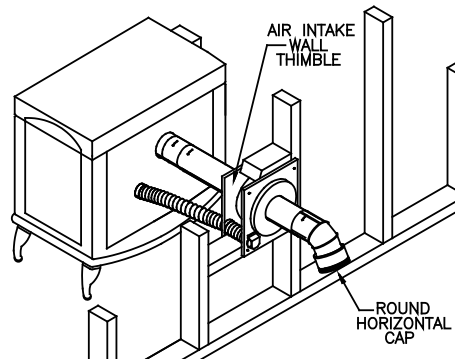

Figure 13
of the stove with clamp provided. Only connect metal flex to the appliance; do not substitute or install plastic flex. The cover plate comes installed on the lower left corner of the thimble with intake guard pointing downward to deflect rain. If it is desired to rotate thimble and air inlet to another corner, remove the (2) screws on the inlet guard and re-attach over air inlet at new location. Secure black interior half of the Wall Thimble to the interior wall, and the unpainted exterior half are to be secured to the exterior wall on both styles of thimbles (Figure 13). The Wall Thimbles adjust to fit walls from 4"-8" thick. For installation in thicker walls an extension tube may be field fabricated.
5. If the flue exit is on back of the stove, and a horizontal through-the-wall installation is desired (*Figure 13*):